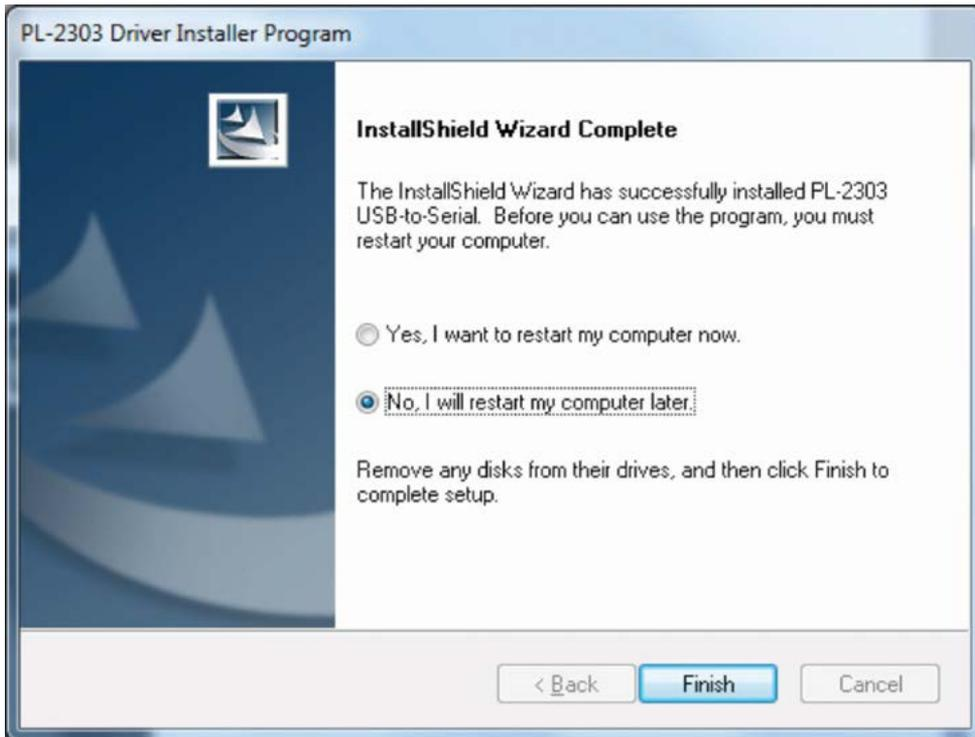

Figure 43: InstallShield Wizard
9. Upon completion, the InstallShield Wizard will appear and will prompt for a system restart. Select the “No, I will restart my computer later” option as shown in **Figure 43**. Then, click “Finish”.